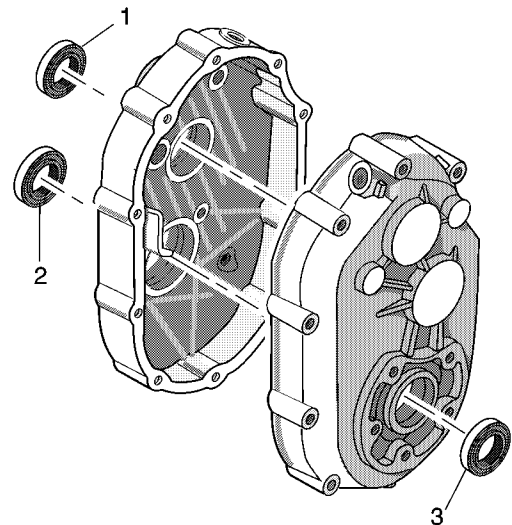

Fig. C-8 Oil Seal Installation
1. Install any oil seals (1, 2, 3) that were removed. Lubricate seals with assembly lube (molybdenum disulfide) before installing them (Ref Fig. C-8 on page C-3).